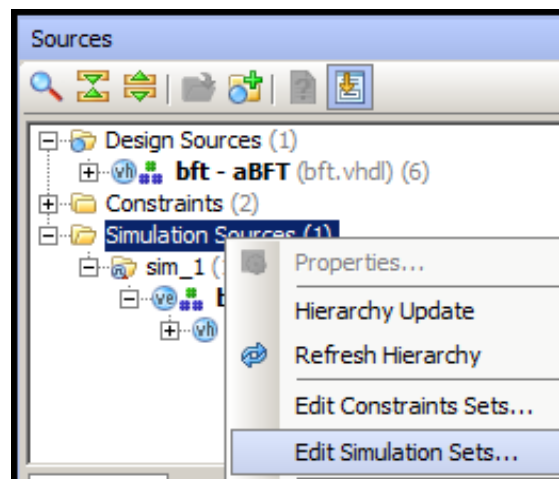

Figure 3-1: Edit Simulation Sets Option
1. In the Sources window popup menu, select **Simulation Sources > Edit Simulation Sets**, as shown in Figure 3-1.